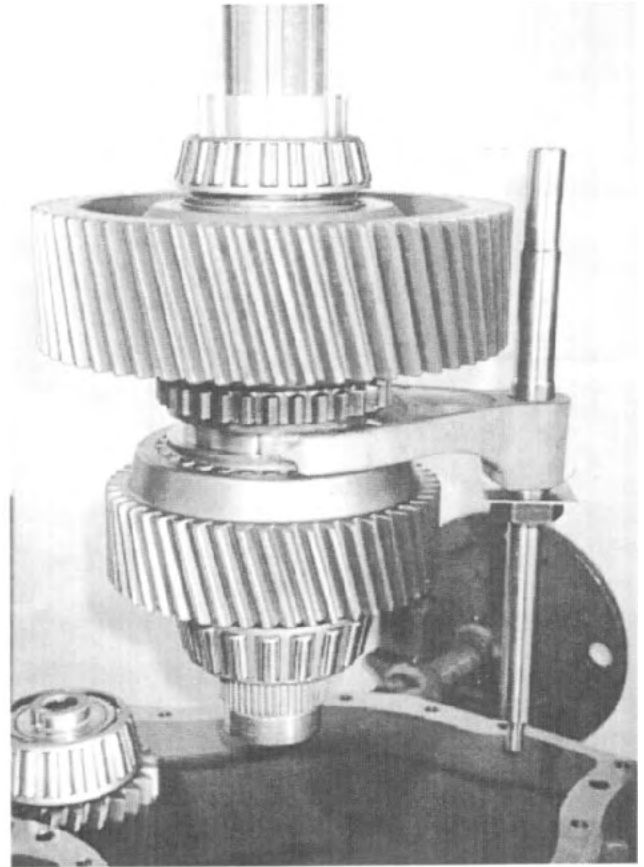

Fig. 64
8. Install the rear output shaft and shifter shaft fork assembly into the transfer case housing. See Fig. 64.